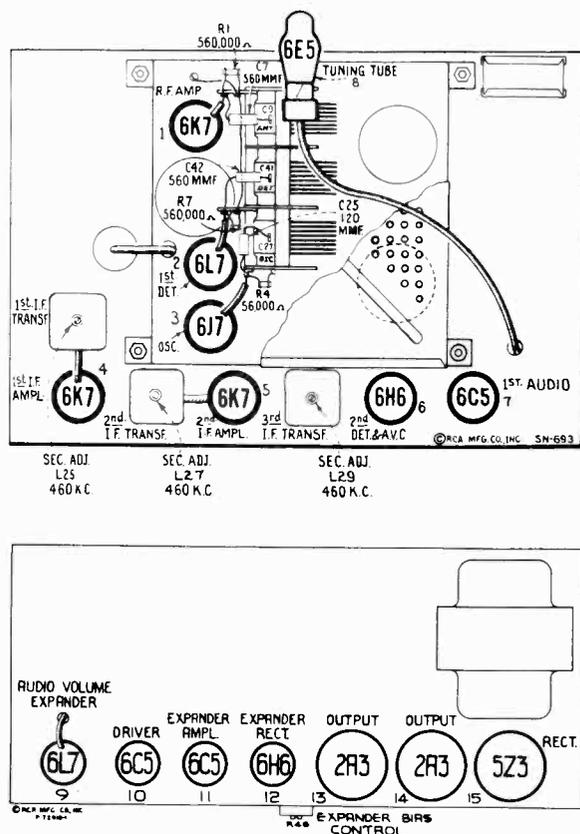

Figure 3—Radiotron and I-F Trimmer Locations
- Adjust the two magnetite core screws L29 and L28 (see figures 3 and 11) of the third i-f transformer (one on top and one on bottom) to produce maximum vertical deflection of the oscillographic image. This adjustment places the transformer in exact resonance with the 460-kc signal.